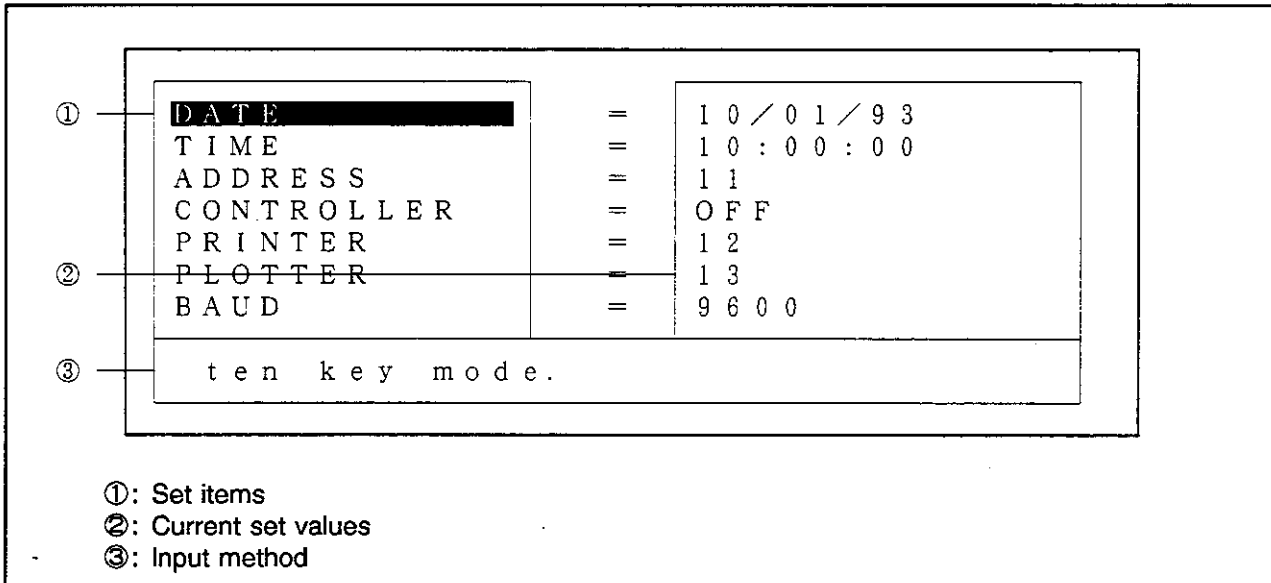
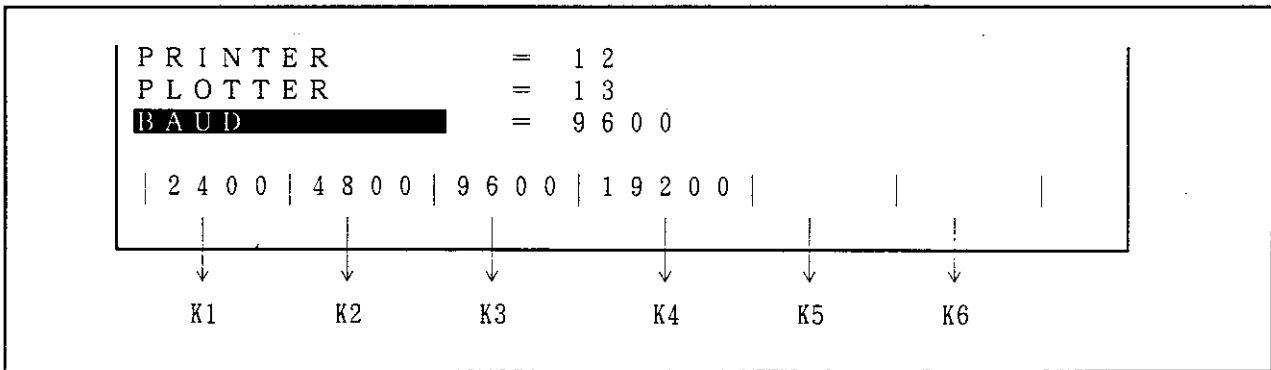

Figure 4-25 CONFIG Mode Screen (for ten-key input)
Figure 4-26 CONFIG Mode Screen (for function key input)
This mode allows the GPIB and serial settings. Pressing the CONFIG key while the BASIC is being stopped causes a screen like that shown in Figure 4-25 to appear.
The first through seventh lines show the set items (① in Figure 4-25) and the current set values (② in Figure 4-25). The current item is indicated by the cursor.
The eighth line shows the input method (Ⓢ in Figure 4-25). When the method is shown as "ten key mode.", input numeric values with the ten keys. For other methods, use function keys K1 to K6 for input (see Figure 4-26). The function keys are K1 through K6 from the leftmost one. The numeric values shown correspond to these function keys. Select the set values from these numeric values. Function keys shown as blank are unavailable. (In Figure 4-26, the K5 and K6 keys are unavailable.)